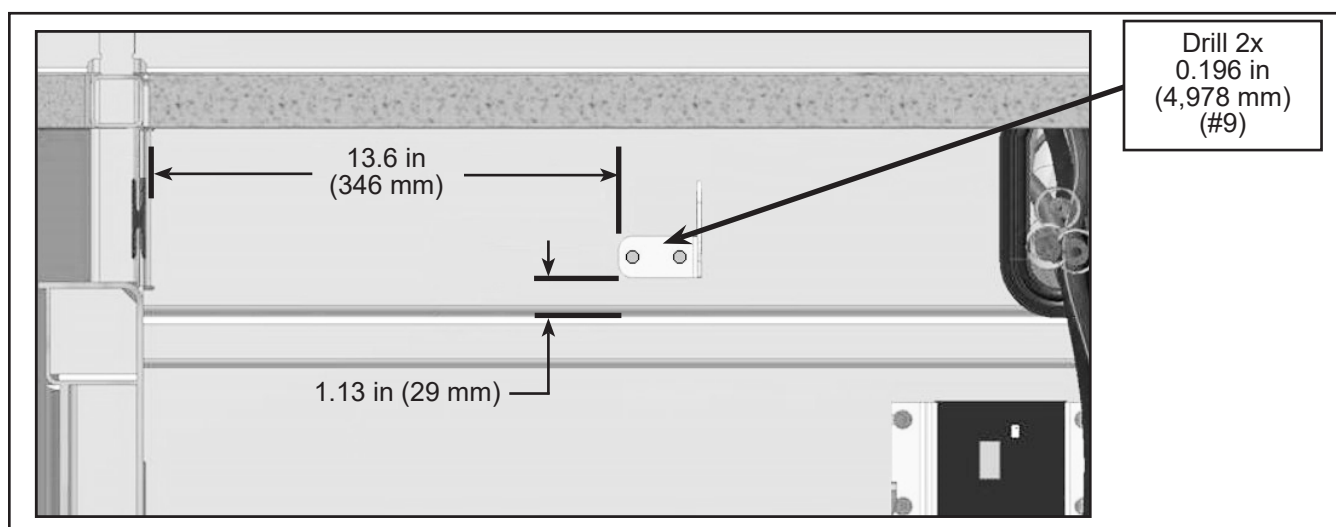

Figure 5 - New Connector Bracket Position and Holes Dimension
- 1.15. Position the new connector bracket N98377 as shown in Figure 5 and mark the two mounting holes position.
- 1.16. Drill the two holes at the dimension shown in Figure 5 and install the bracket with the two rivets N31595.